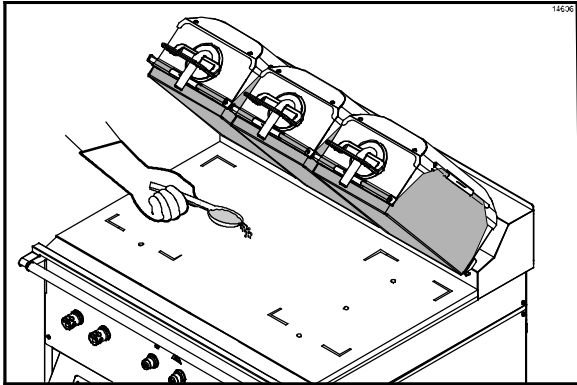

Figure 70
47. Using a sundae spoon, distribute two level spoonfuls of soy adhesion flakes over a warm 3 ft. (1 m.) lower grill surface, allowing the flakes to melt. (See Figure 70.)